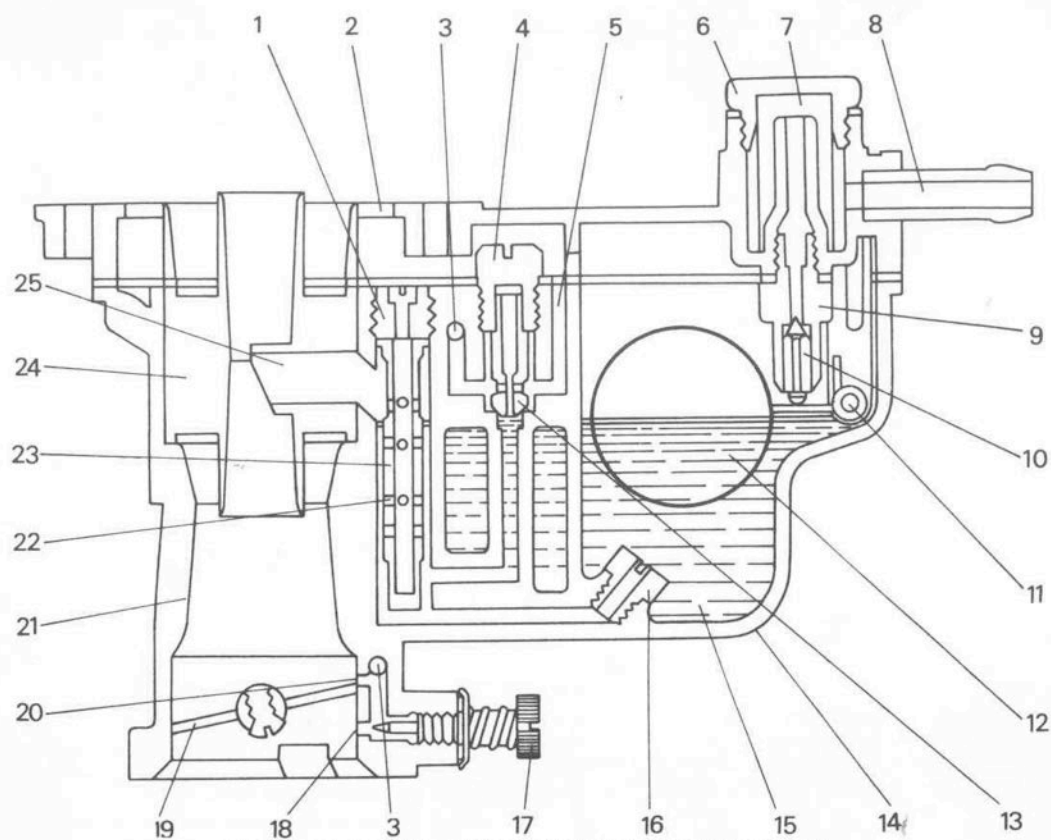

FIG 2:4 Section through the carburettor, type Weber 28 IMB
**Key to Figs 2:4 and 2:5** 1 Air correction jet 2 Air intake 3 Passage for idle mixture 4 Holder for idling jet 5 Air passage idling jet 6 Plug 7 Filter 8 Fuel inlet 9 Valve seating 10 Needle valve 11 Float pivot pin 12 Float 13 Idling jet 14 Body 15 Bowl 16 Main jet 17 Idling mixture screw 18 Idling passage 19 Throttle butterfly 20 Transfer orifice 21 Primary venturi 22 Emulsion holes 23 Emulsion tube 24 Auxiliary venturi 25 Nozzle 26 Mixture passage 27 Lean mixture hole 28 Mixture hole 29 Mixture hole 30 Mixture passage 31 Choke valve 32 Air holes 33 Rocker pin 34 Spring 35 Control lever 36 Choke cable screw 37 Cover 38 Spring 39 Spring retainer and guide 40 Starting jet emulsion air hole 41 Reserve well emulsion air hole 42 Reserve well 43 Starting jet